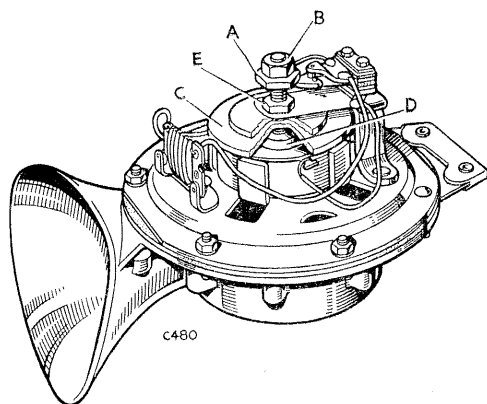

Fig. P-23—Horn adjustment. Clear Hooters
5. Connect the horn leads to a 12-volt battery and adjust nut (A) until maximum volume is obtained, then lock in position with nut (B). See Fig. P-23
6. Adjust the air gap between armature (C) and the magnet core face (D) to .045 to .050 in. (1,0 to 1,25 mm) by slackening nut (E) and turn the armature (C) clockwise or anti-clockwise until the recommended distance is obtained, then tighten nut (E). The current consumption with horn correctly adjusted is 9 amperes.